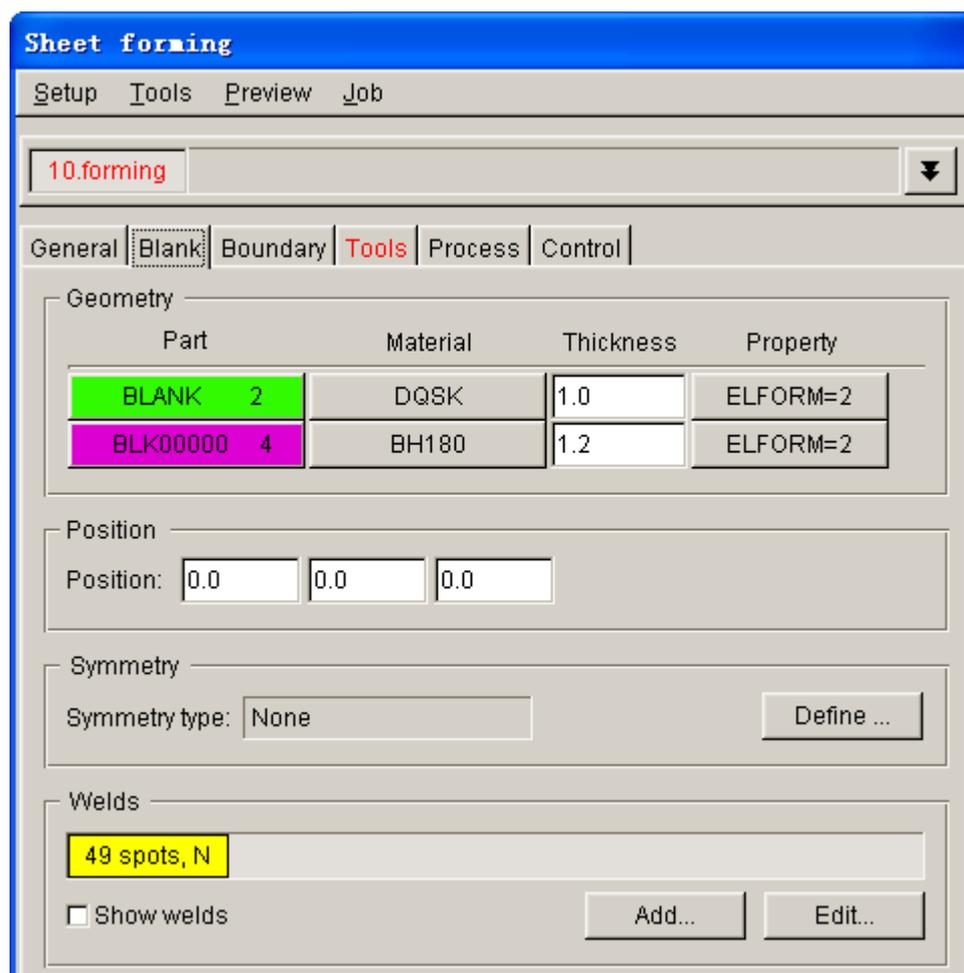

Figure 5.41 Welds definition interface
4. Click **OK** button in **BLANK WELD** dialog box to return to **AUTOSETUP** interface. You can observe the weld information is listed in the Welds field, as illustrated in Figure 5.41.